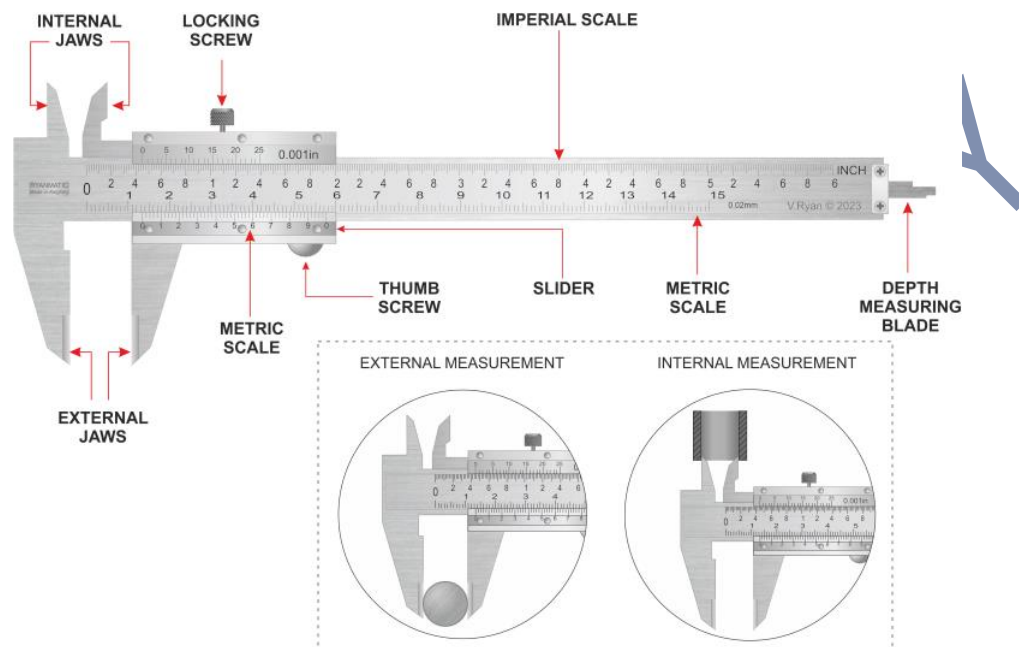

Figure 4.3 How to use a vernier caliper.
- Place the object between the outside jaws (Figure 4.3).
- Slide the vernier scale until the jaws grip the object snugly, (Figure 4.3).